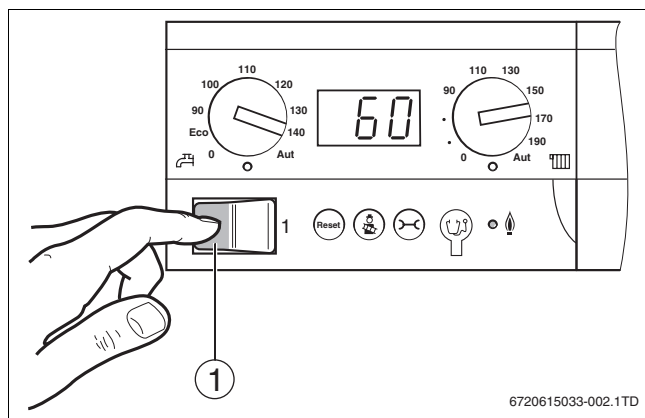

Fig. 1 Mains switch
- Switch off the heating system using the main switch (→ fig. 1).
- ▶ Switch on the heating system by setting the main switch to position "1" (→ fig. 1, page 5).